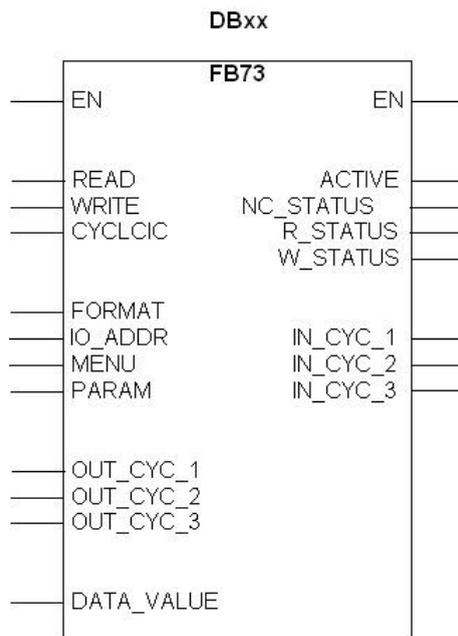

Fig 4 Function Block 73
4. The function block (see figure 4) has several variables, their names and functions are shown in the following two tables:-
- To control data transfer from the PLC to the Profibus, FB73 must be called from one of the run-time blocks (OBxx) within the PLC program. FB73 can be used more than once in any program block, but each instance **MUST** have a unique data block associated with it. To set the data block edit the ??? at the top of the FB73 and change it to **DBxx** where the xx is a decimal number, which when set will allocate PLC RAM to the function block. See figure 4.